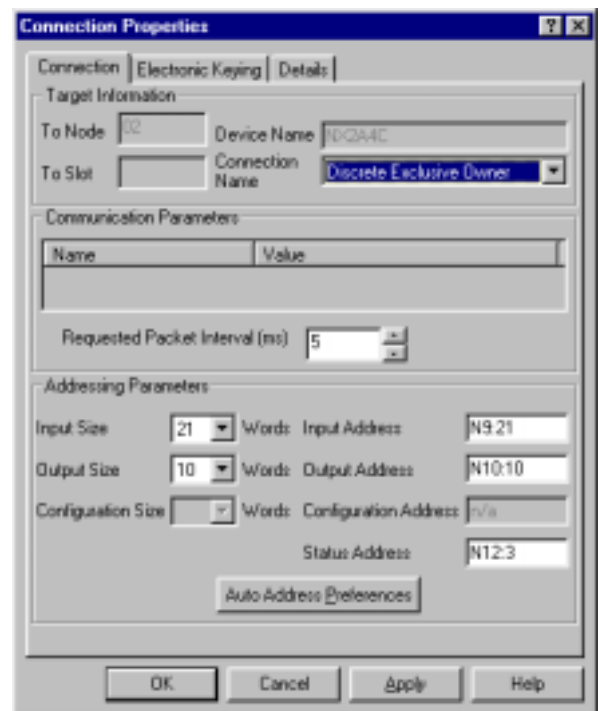

Figure 3.1 Scanlist Configuration Screen
- 7) In the Device Name column, right click on the name of the unit, (NX2A4C by default), and click on **Insert Connection** in the pop-up menu. The *Connection Properties* window appears on the screen. A sample *Connection Properties* window is shown in figure 3.1